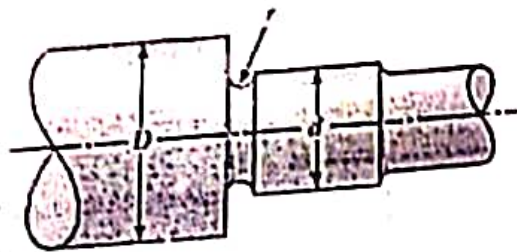

Fig. 1
- Q.1. The section of shaft shown in Fig.1 is to be designed to approximate relative sizes of $d = 0.75D$ and $r = D/20$ with diameter d conforming to that of standard metric rolling-bearing bore sizes. The shaft is to be made of SAE 2340 steel, heat-treated to obtain minimum strength in the shoulder area of 1276-MPa ultimate tensile strength and 1130-MPa yield strength with a Brinell hardness not less than 368. At the shoulder the shaft is subjected to a completely reversed bending moment of $75 \text{ N} \cdot \text{m}$, accompanied by a steady torsion of $40 \text{ N} \cdot \text{m}$. Use a design factor of 2.5 and determine the size of the shaft for a finite life of 3×10^5 cycles. (15)